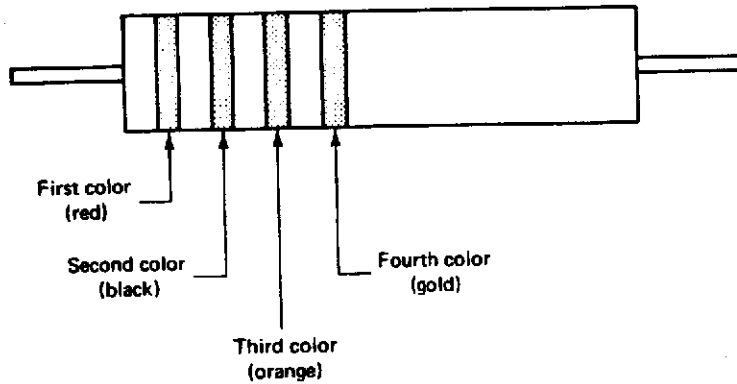

FIGURE 2-2B
3. Figure 2-2B shows a resistor using a common band color-code system. Reading the colors from left to right, or from the end of the resistor closest to where the bands begin, and using the chart in your textbook you should be able to deter-